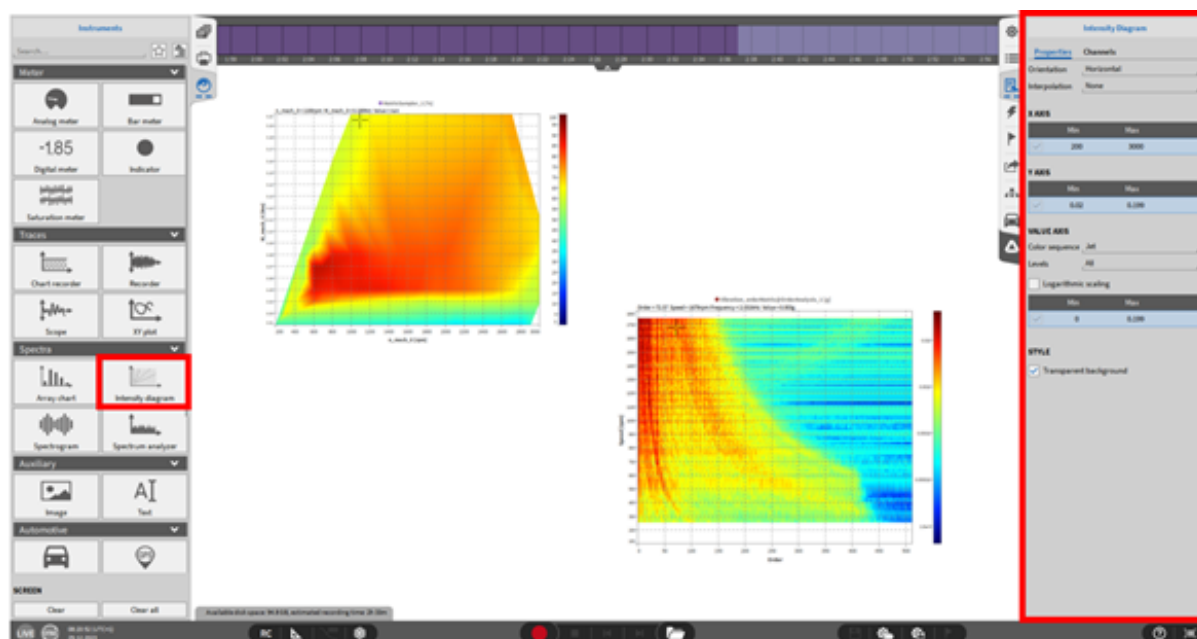

Fig. 8.101: Intensity Diagram instrument - overview
- Select levels to have a more defined grading in the matrix. Select the number of levels which should be defined with a black border. The matrix on the left in Fig. 8.101 shows no grading and the matrix on the right has a 10-level grading.